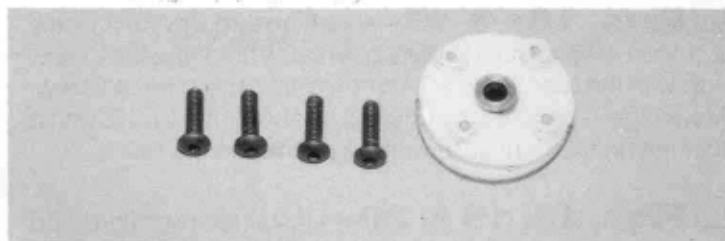
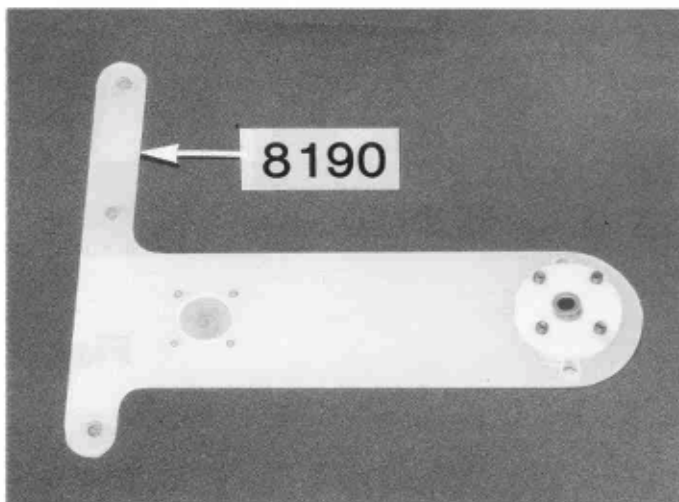
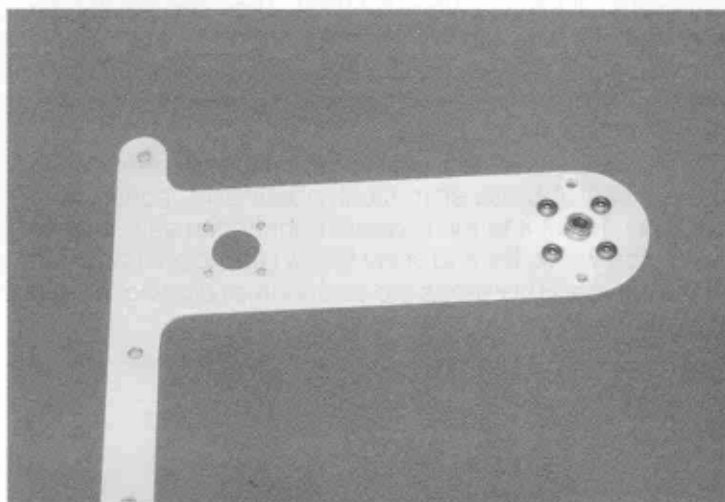

Fig. 14
Fig. 15a
Fig. 15b
□ **Figs. 14, 15a & 15b--** Mount the socket assembly onto the #8190 T-bar with the four screws shown in Fig. 14. Do not overtighten. If this ball is tight in the plastic, it's okay; it doesn't swivel. (Fig. 15a shows the top view; Fig. 15b shows bottom view.)